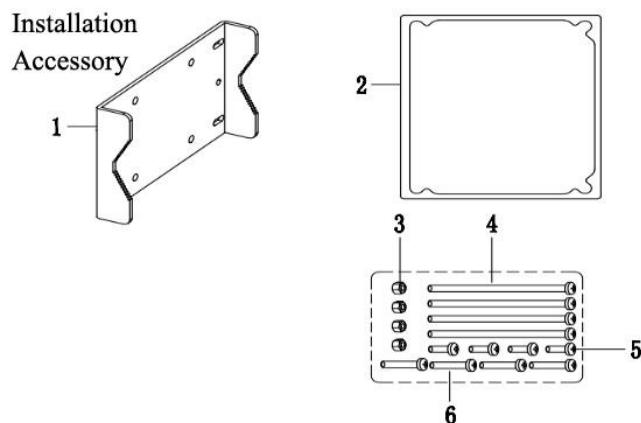

Figure 2 Installation Components
① Figure 2 shows the transmitter installation components.